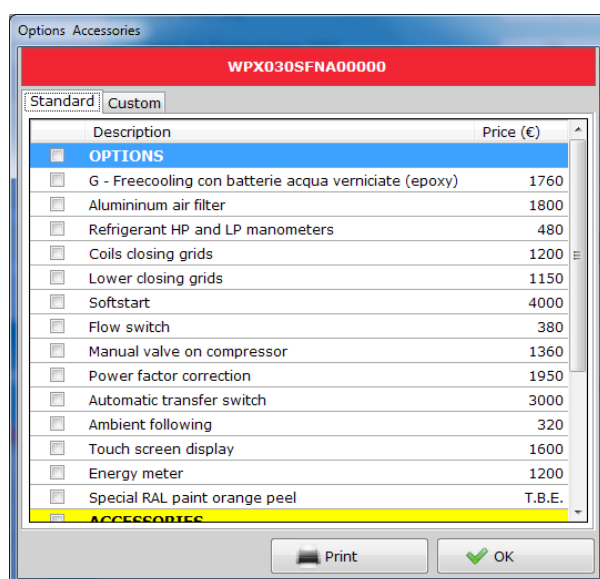

Fig. 1 - Accessories-Options section
- **Standard:** selection of accessories and options (Fig. 1) from a list. The selection changes the unit code: the new code is shown in the red box at the top of the mask. The selection is applied to all available units.